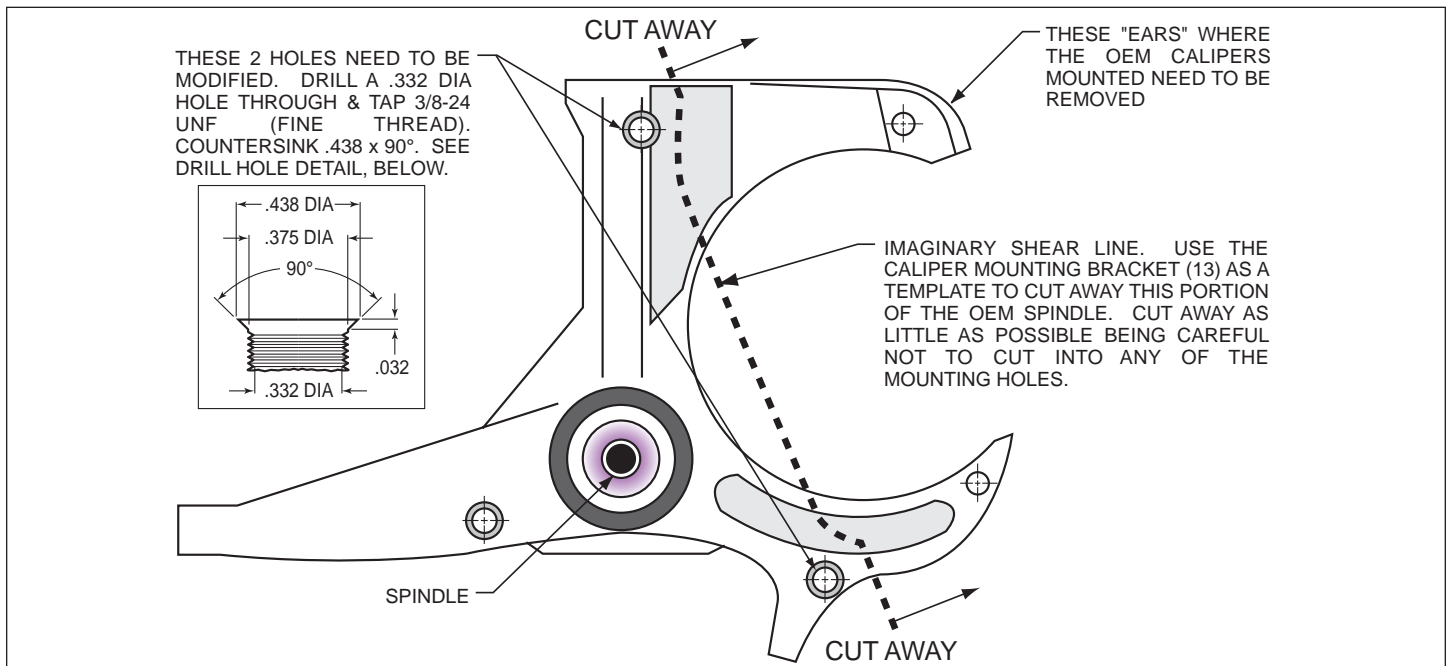

Figure 1. Steering Arm / Spindle Modifications
These modifications should be performed by a qualified machinist. Refer to Figure 1 on the following page as necessary (numbers in parenthesis refer to the parts list on page three). Only one view of the steering arm/spindle is shown, but the modifications need to be performed on both steering arm/spindles.
The two stock holes that will be used to mount the caliper mounting bracket (1) need to be modified (figure 1). Drill a .332 diameter hole through both holes, then tap 3/8-24 UNF (fine thread). Countersink the holes to .438 x 90°. The "ears" that protrude to form a "C" shape need to be removed to facilitate the installation of the Wilwood caliper (19). Using the caliper mounting bracket (13) as a template, mark two cut marks on the steering arm. Remove as little as necessary from the "C" shape, being careful not to cut away any of the mounting holes required to bolt on the caliper mounting bracket (1).